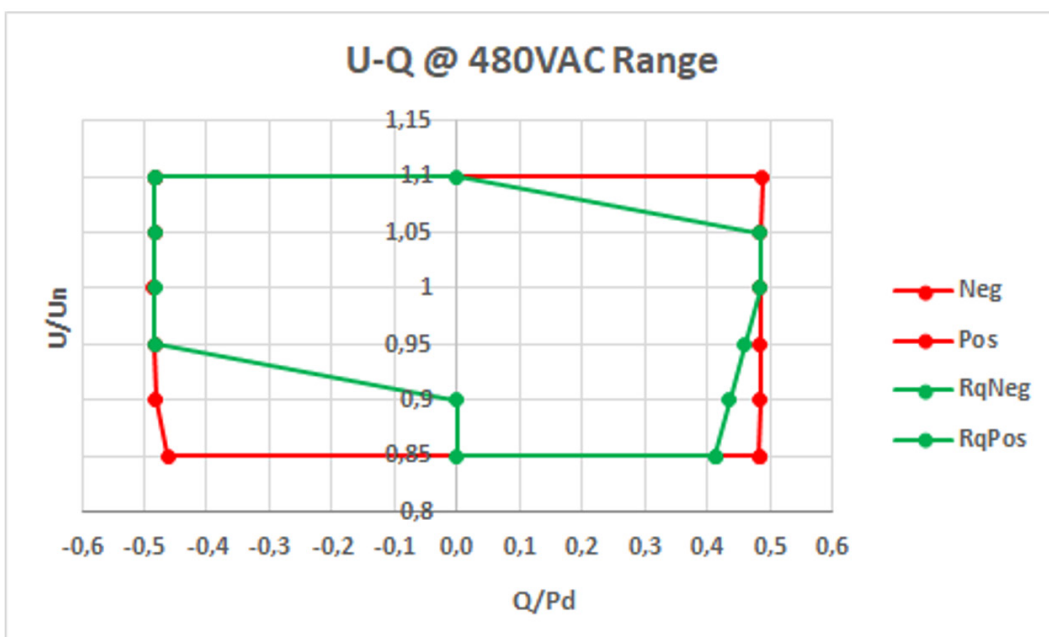

Figure 4: Q(U) - 30C3-CE
Shown in Figure 4, there are eleven (11) low-voltage interfaces on the Control Board.